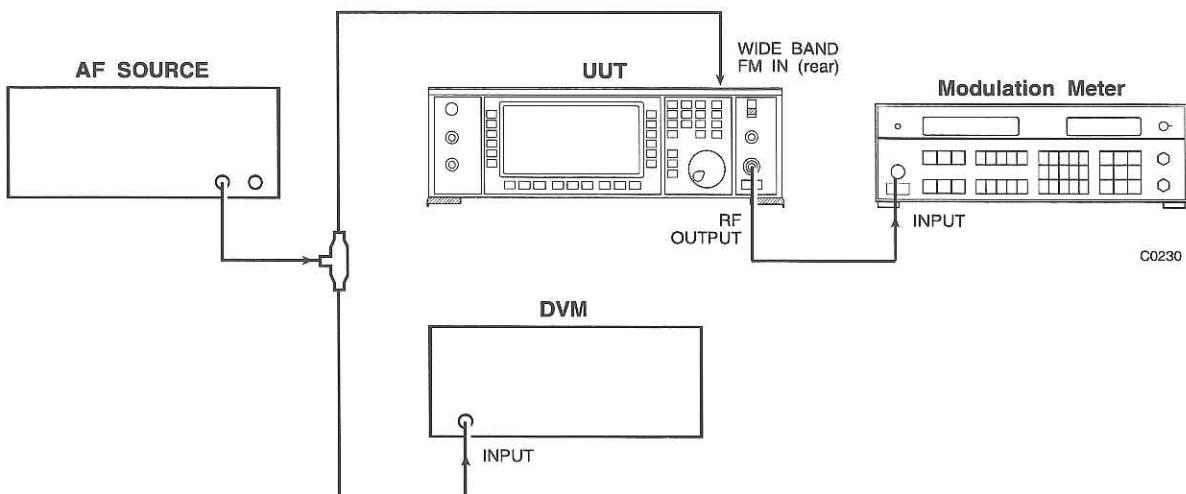

Fig. 5-2-10 Equipment configuration for the WBFM tests
- (1) Connect the AF source via a T-connector to the WIDE BAND FM IN on the UUT and to the DVM. Connect the RF OUTPUT on the UUT to the modulation meter. Equipment configuration is shown in Fig. 5-2-10.